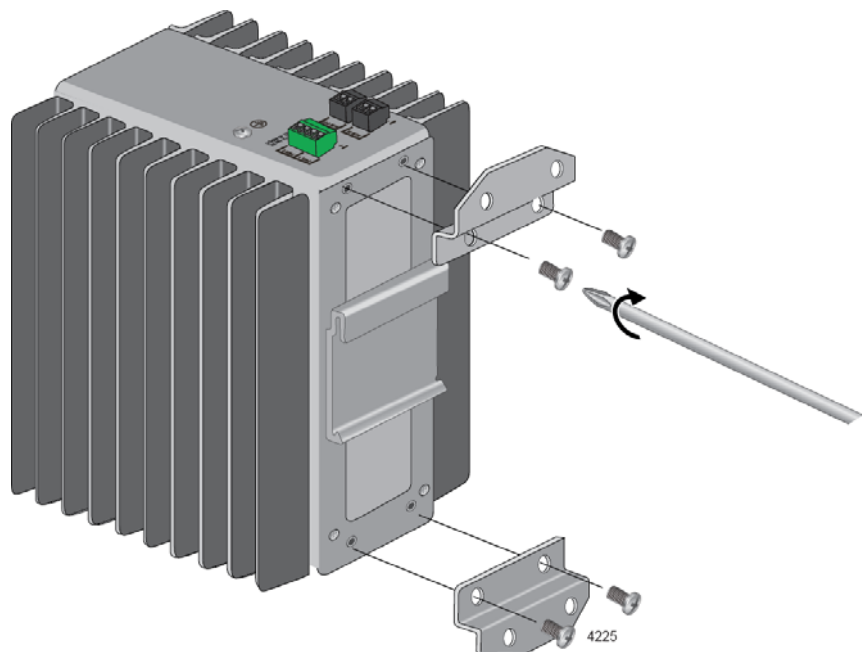

Figure 21. Installing the Wall Brackets on the Switch
1. Install the two wall brackets to the back panel of the switch, with the four screws included with the unit. Refer to Figure 21.
2. Install the two brackets that come with the switch to the back panel of the unit. Refer to Figure 21 on page 65.